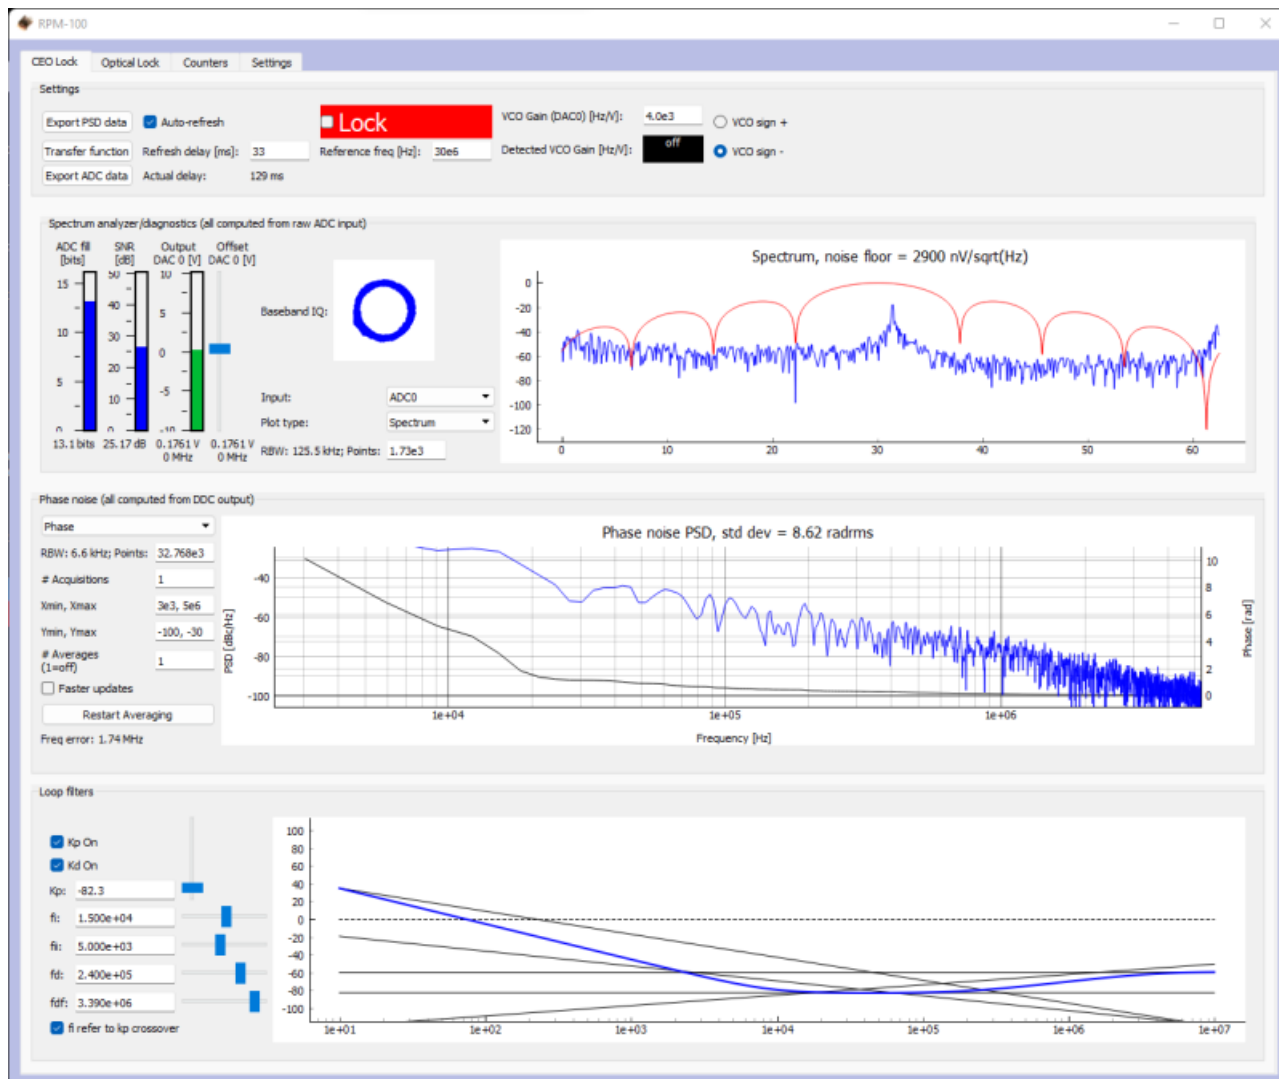

Fig. 5: Centering  $f(\text{CEO})$  on reference frequency (Baseband IQ optimization)
1. Navigate to the “CEO Lock” tab and adjust the “Offset DAC 0” slider near the top left by clicking and dragging the slider until the the data in the Baseband IQ plot is circular and the beat note is visibly centered under the middle red filter arch (figure 5). It is also possible to adjust the FFC-100 oscillator current on its front panel to make this adjustment.